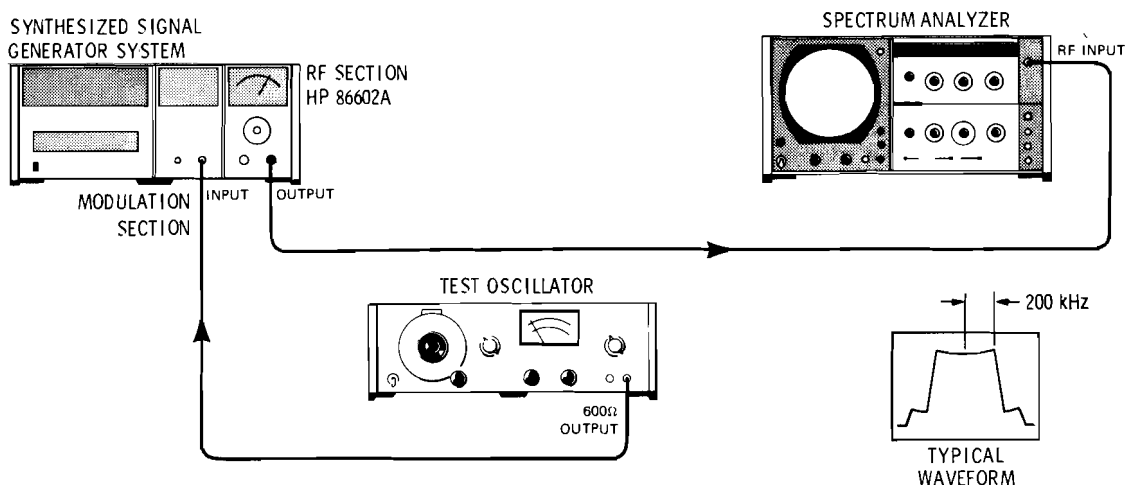

Figure 4-6. Frequency Modulation Rate and Deviation Test Setup
2. Connect the equipment together as illustrated in Figure 4-6.
6. The bandwidth of the frequency modulated signal should be 400 kHz (200 kHz peak). Refer to typical waveform of Figure 4-6.
7. Set the Modulation Section source control for an internal 1 kHz signal. The bandwidth of the FM signal should be 400 kHz (200 kHz - peak). Refer to typical waveform of Figure 4-6.